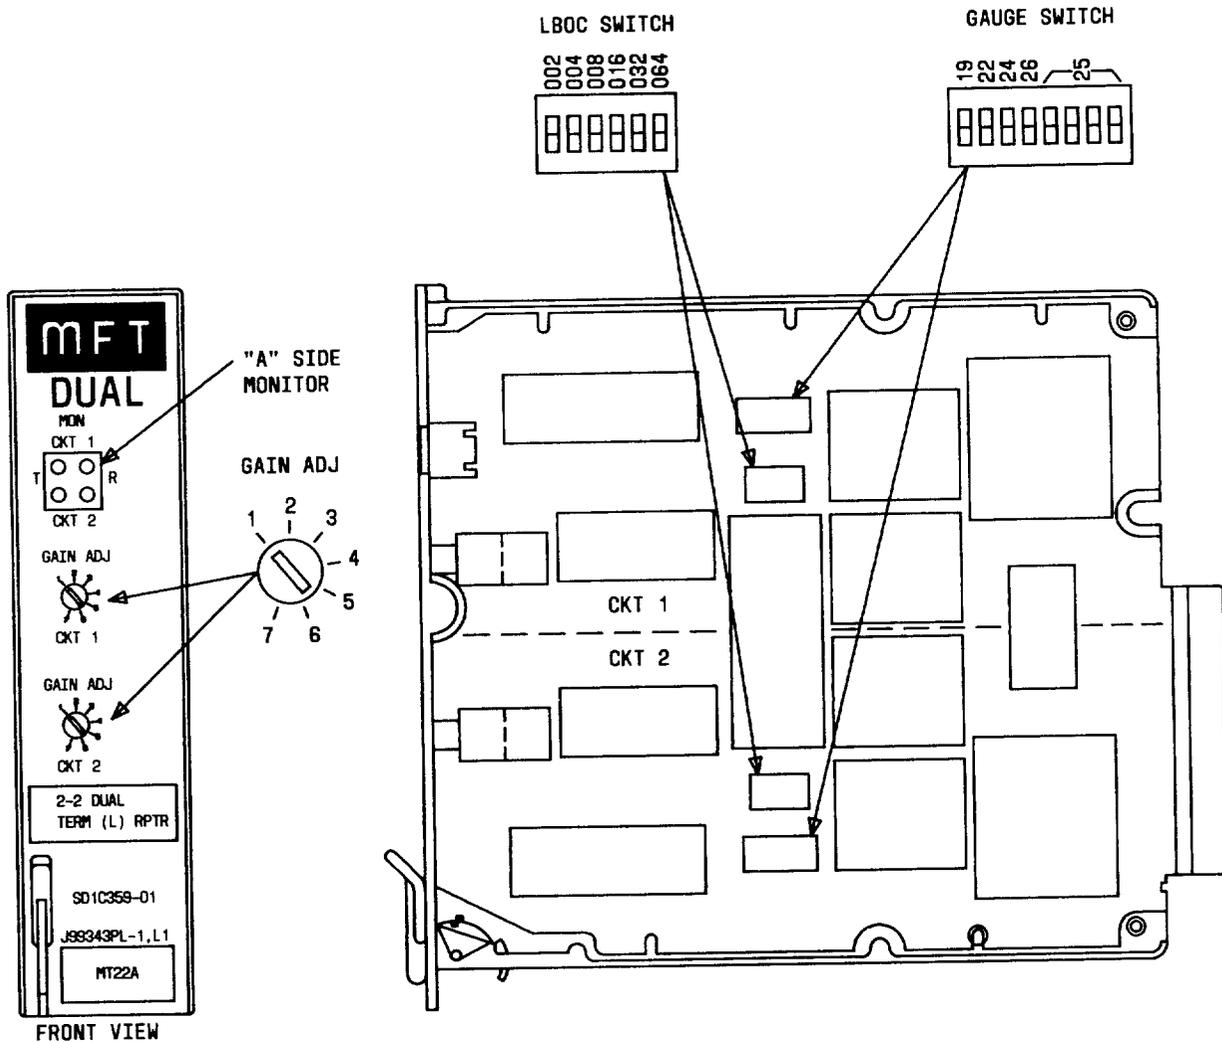

Fig. 1—Component Layout, J99343PL, L1
2.01 The J99343PL, L1 terminal repeater is shown in Fig. 1. Each of the two repeaters contained
**2.08** The rocker-type switches for a particular function which are described in the following paragraphs, are operated when depressed toward the respective designation. The sum of the values of the switches operated is the setting for that function. The unit controls are illustrated in Fig. 1.